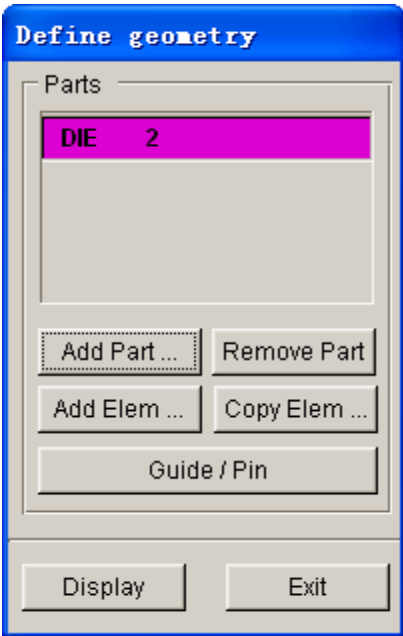

Figure 4.17 Die geometry list
- 7. Click **OK** to return tool geometry define dialogue box. **DIE** part has been added to the list of die. See Figure 4.17.